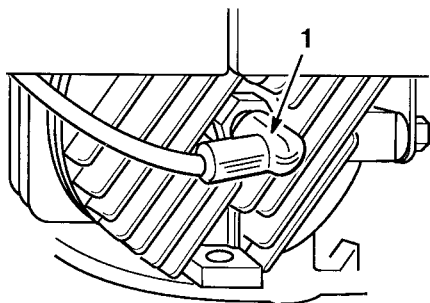

Figure 41
1. Stop engine and disconnect spark plug wire (Fig. 41) before installing or removing grass chute.
1. Stop engine and disconnect spark plug wire (Fig. 41) before installing or removing mulch plate.